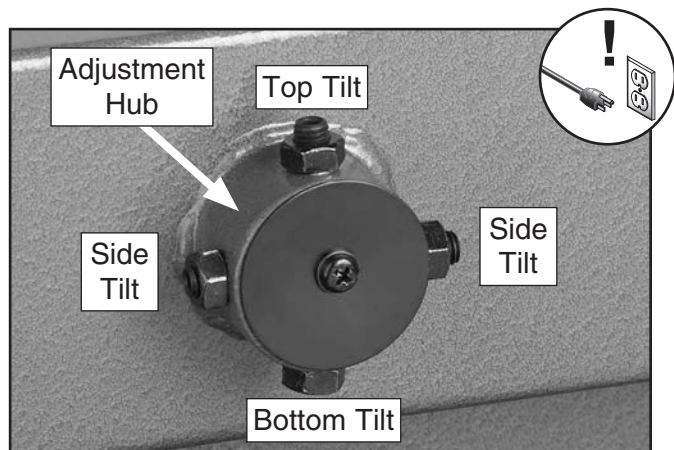

Figure 117. Lower wheel adjustment control.
- Loosen the jam nuts on the lower wheel adjustment hub (see **Figure 117**).